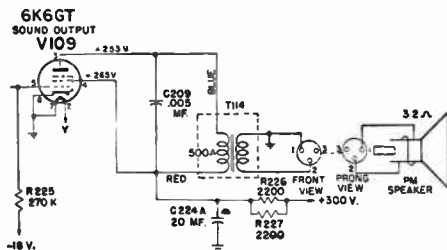

Fig. 1. The speaker circuit of the Crosley Models 9-408 and 9-408(50).
These receivers are substantially the same as Models 307TA and 307TA(50) which appear in *Rider's TV Manual Volume 1* on pages 1-1 through 1-17,18. They differ in certain parts of the over-all circuit. In the speaker circuit, models 9-408 and 9-408(50) employ a three-prong plug and cabled socket to connect the speaker to the output transformer. Also the hum bucking coil has been omitted. See Fig. 1.